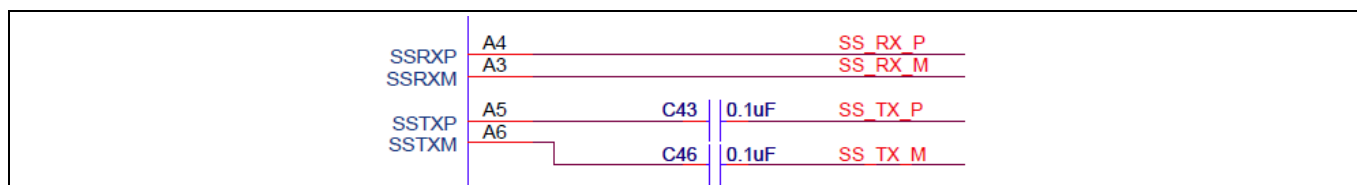

Figure 15 SuperSpeed TX line decoupling caps
- USB 3.0 traces require additional AC coupling capacitors (0.1 μ F) placed on the SS_TX lines. Place these capacitors symmetrically and close to the EZ-USB™ FX3 device. See Figure 15.